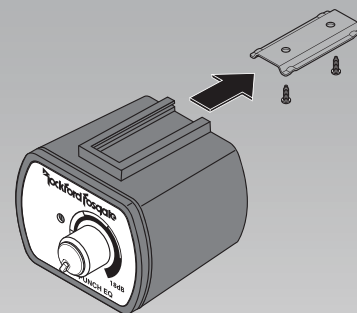

Figure 1
2. Route the cable for the remote and connect to the amplifier, Figure 1.